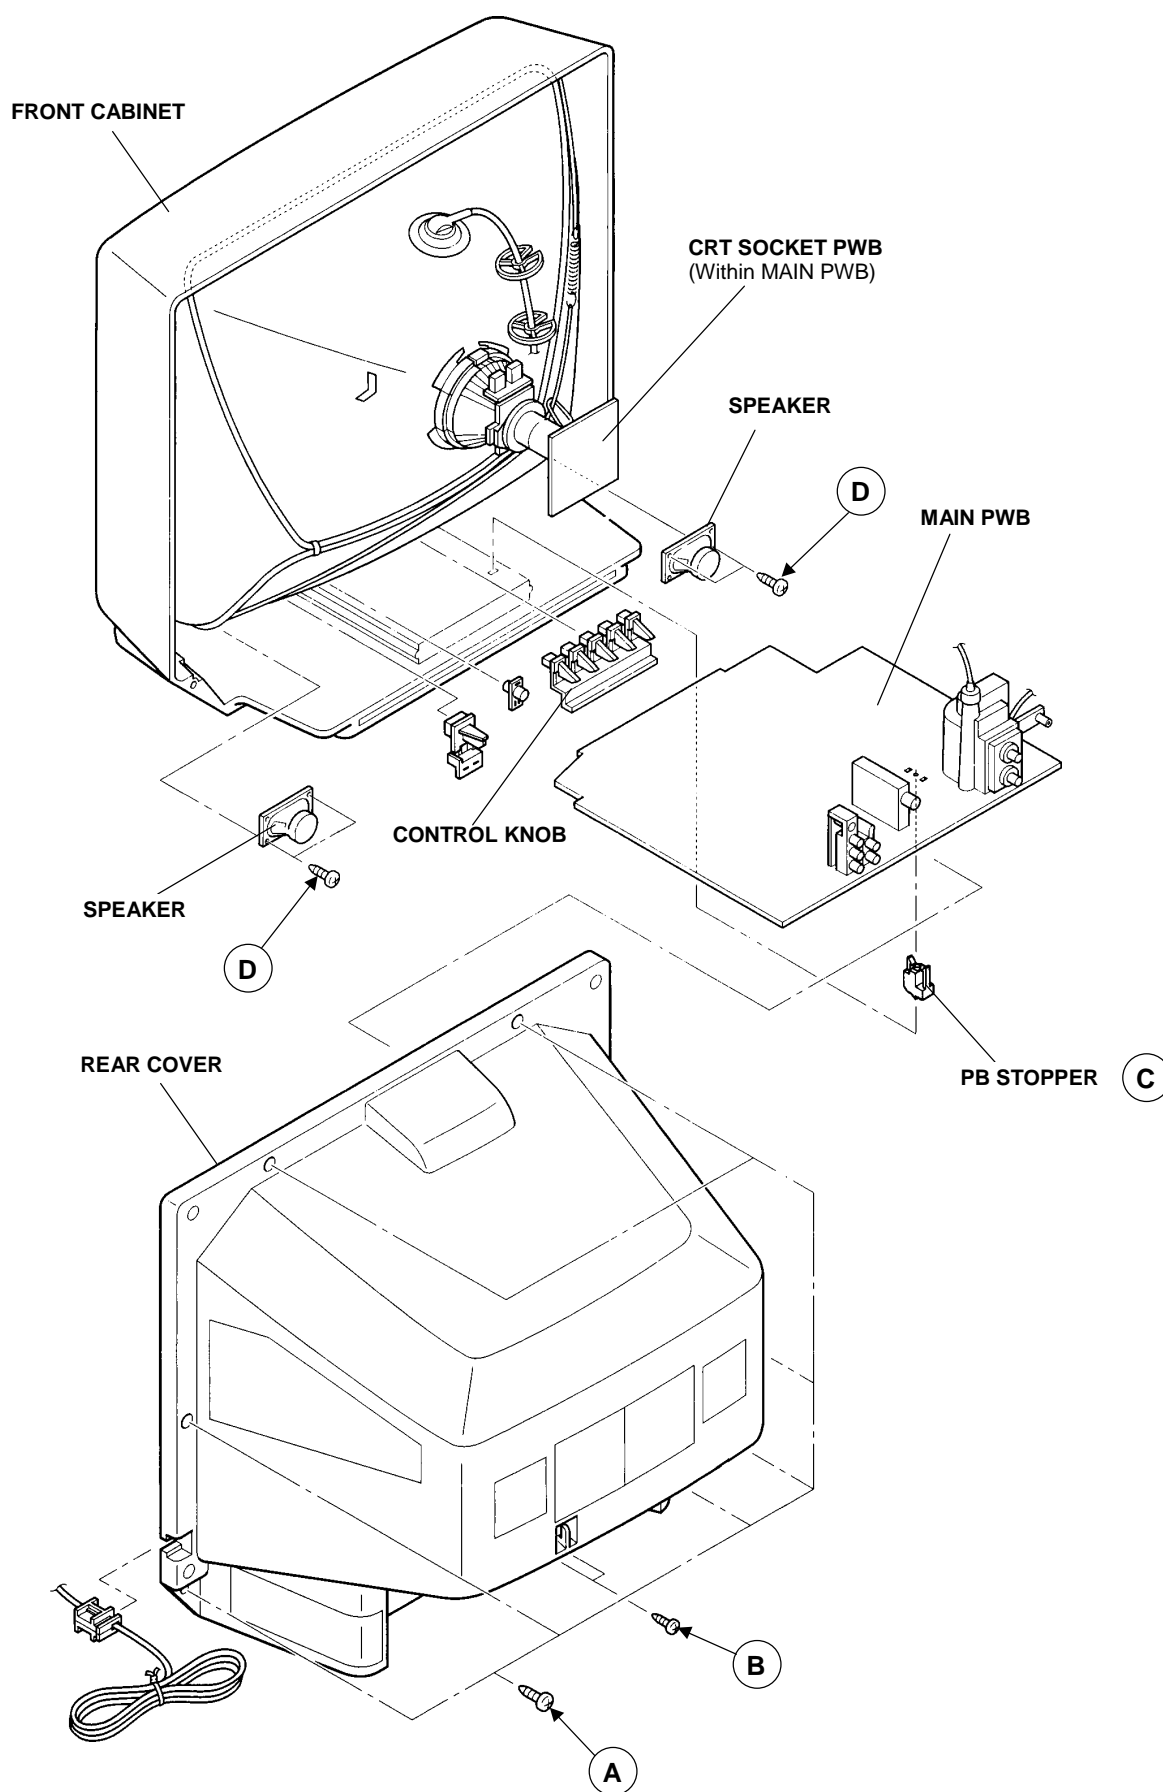

Fig.1
2. Remove the 7 screws marked (A) and 2 screws marked (B) as shown in Fig.1.
1. Remove the 2 screws marked (D) as shown in Fig.1.
<p>(4) System constant check and setting 1) Press SLEEP TIMER key and, while the indication of "SLEEP TIMER 0 MIN." is being displayed, press DISPLAY key and VIDEO STATUS key on the remote control unit simultaneously. 2) The SERVICE MENU screen of Fig.1 is displayed. 3) While the SERVICE MENU is displayed, again simultaneously press the DISPLAY and VIDEO STATUS keys to display the Fig.2 SYSTEM CONSTANT screen. 4) Refer to the SYSTEM CONSTANT table and check the setting items. Where these differ, select the setting item with the MENU UP/DOWN key and adjust the setting with the MENU LEFT/RIGHT keys. (The letters of the selected item are displayed in yellow.) 5) After adjusting, release the MENU LEFT/RIGHT key to store the setting value. 6) Press the EXIT key twice to return the normal screen.</p>	<div></div> <p>Fig.1</p> <div></div> <p>Fig.2</p> <p>Indicated Model No.</p>
<p>(7) SERVICE MENU setting Verify what to set in the SERVICE MENU, and set whatever is necessary.(Fig.1) Refer to the SERVICE ADJUSTMENT for setting.</p>